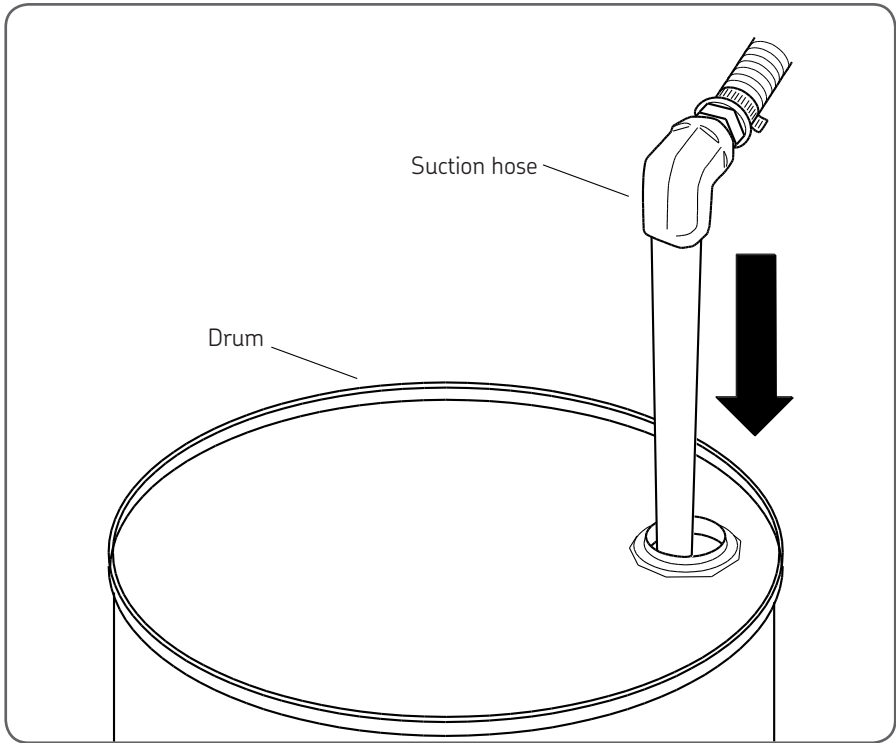

Fig 21 Place suction tube
2. Place the tube-end of the suction hose assembly into the oil drum or container (208 litre/55 US gal drum). See figure 21.